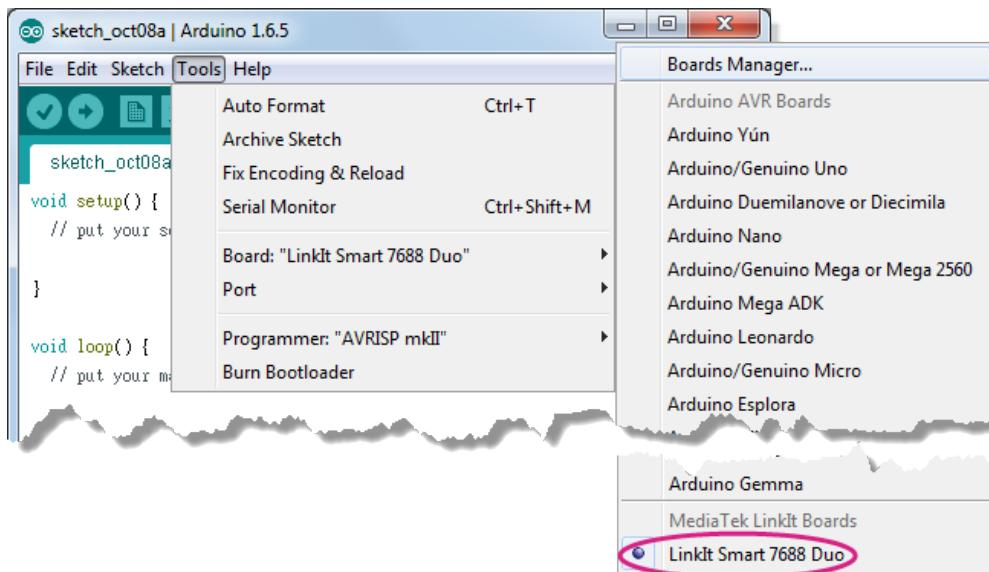

Figure 49 LinkIt Smart 7688 Duo installed on Arduino IDE
- 7) You now have the LinkIt Smart 7688 Duo installed on Arduino IDE as show in Figure 49.